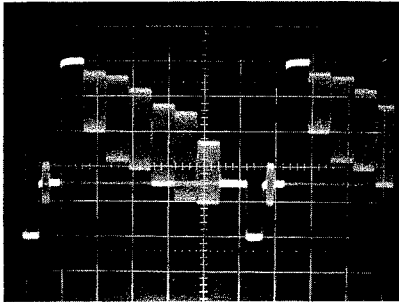

Fig. 26
- Adjust the signal on TP454 to  $1.0 \pm 0.05$  Vp-p (when terminated with 75 ohm) or to  $2.0 \pm 0.1$  Vp-p (when unterminated) with R337 in the luminance section of the PV01. (Fig. 26)